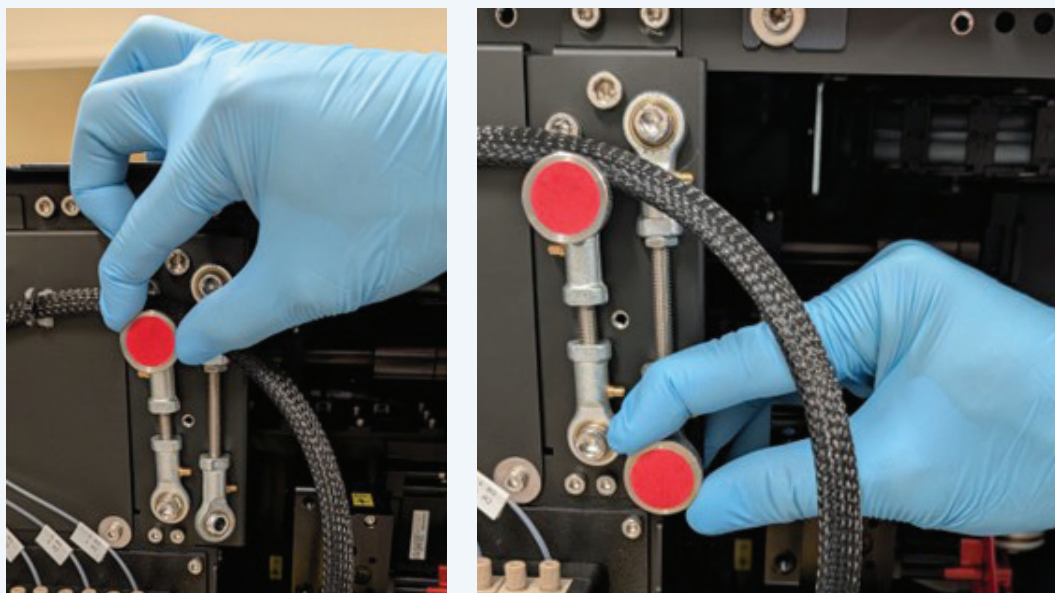

Figure 9. LeviCell EOS main motion stage safety lock holders.
- b. To store the motion stage lock holders, screw them to the chassis using the same thumbscrews as shown in Figure 9. Store the tag in the transport cartridge box for future use.